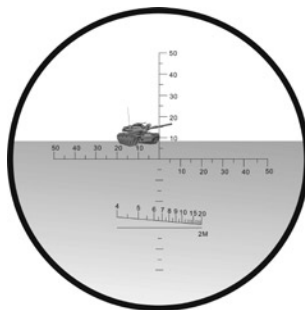

Figure 10. Horizontal View Angle Measuring
A. When the Horizontal View Angle is smaller than the horizontal scale range (-50~+50 mils) inside the binoculars, aim one edge of the object at a horizontal scale line(the center or the outmost line are selected according to the image size of object usually) and read its value. Then read the value of the scale at which another edge was located. Plus this two value, the sum value is the measured Horizontal View Angle. As shown in Figure 10, the Horizontal View Angle of the target (tank) is 20-00 mils, and the Horizontal View Angle is 20 mils.